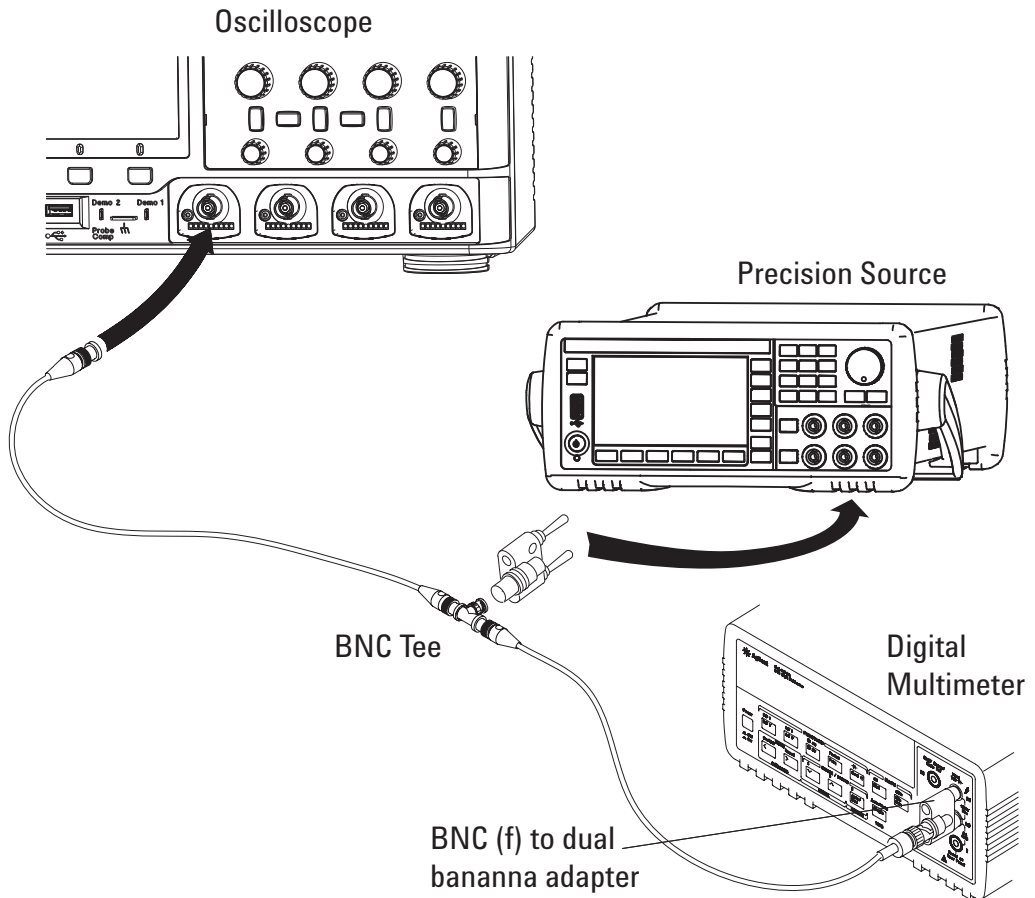

Figure 3 Setting up Equipment for DC Vertical Gain Accuracy Test
- 5 Use the BNC tee and cables to connect the precision source /power supply to both the oscilloscope and the multimeter (see **Figure 3**).